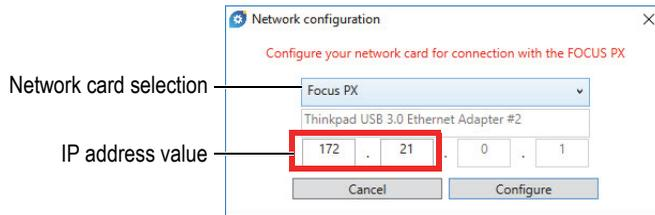

Figure 5-3 Selecting the network card to configure
4. In the **Network configuration** dialog box, select the network card that is used for FOCUS PX communication (see Figure 5-3 on page 21).